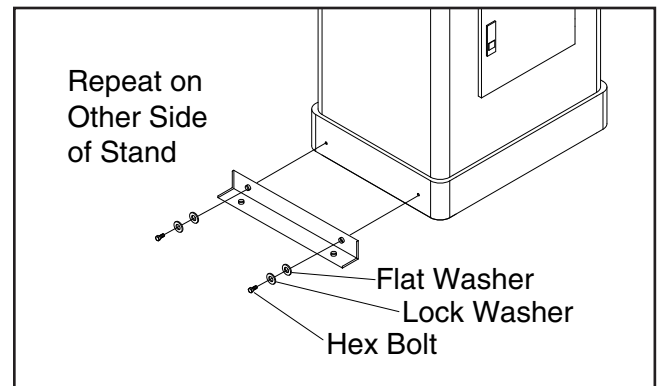

Figure 6. Installing L-brackets.
4. Install the L-brackets, as shown in **Figure 6**, with the hex bolts, lock washers, and remaining flat washers.